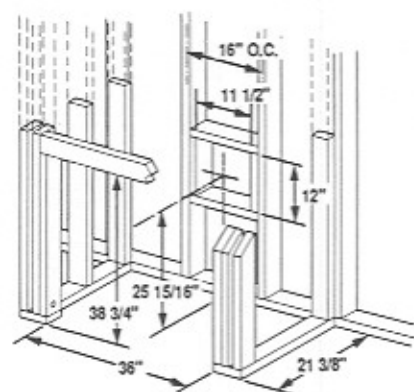
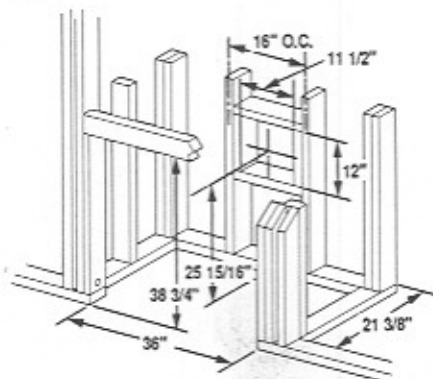

Figure 1
Figure 3
Step 1. To install the appliance against an outside wall (projecting into the room), frame appliance enclosure as illustrated in Figures 1 and 2. To install the appliance flush with an outside wall, frame exterior appliance enclosure as illustrated in Figures 3 and 4. If appliance is to be elevated above floor level, a solid continuous platform must be constructed. Additionally, if possible, the appliance should be centered between two 16" on center studs (as illustrated), to avoid extra framing when later installing the vent terminal kit. The header may rest on the top metal spacers but must not be notched to fit around them.